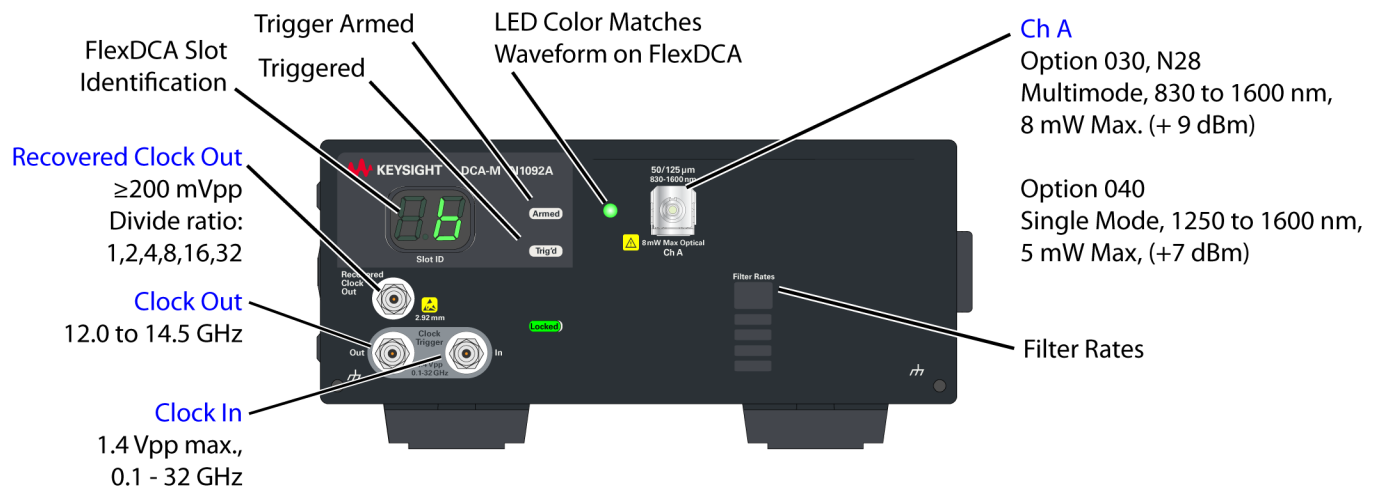

Figure 8. N1092A Option CDR Front Panel
- *Figure 8, N1092A Option CDR Front Panel*, on page 33